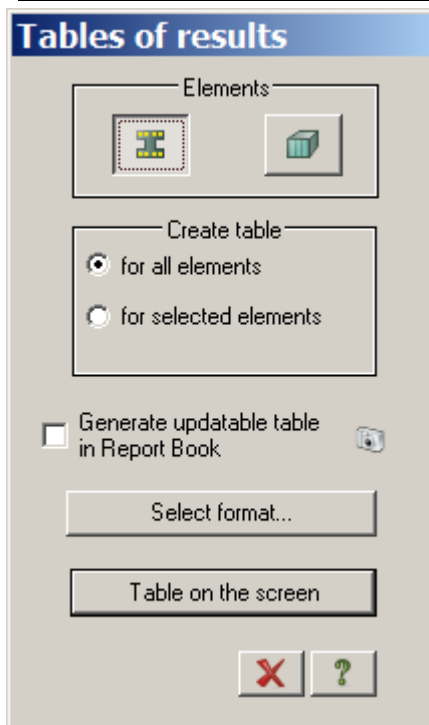

Figure 11.35 **Tables of analysis results** dialog box
- ⇒ In the **Tables of analysis results** dialog box (see Fig.11.35), the following data is mentioned by default: **Reinforcement in bars** option in the **Elements** area and **For all elements** option in the **Create table** area.